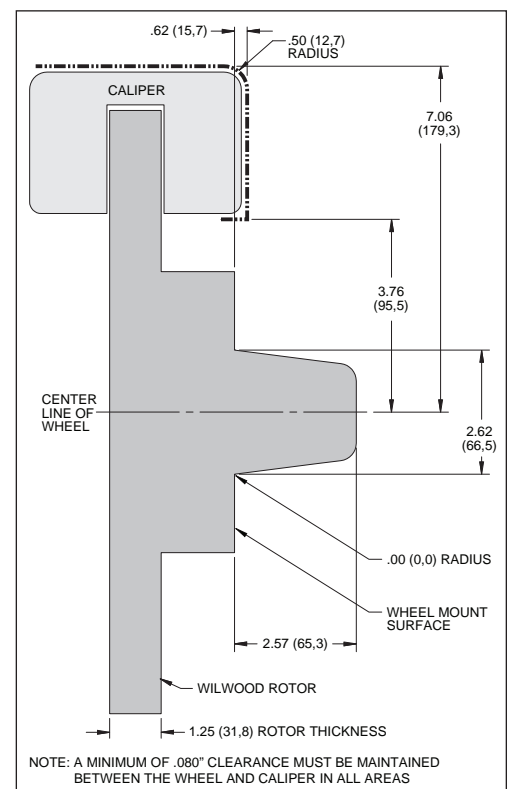

Figure 3. Wheel Clearance Diagram
- Review the Wheel Clearance Diagram (Figure 3, Page 4) to verify that there is adequate clearance with the wheels you will be using with the installation.
- Verify your wheel clearance using Figure 3.